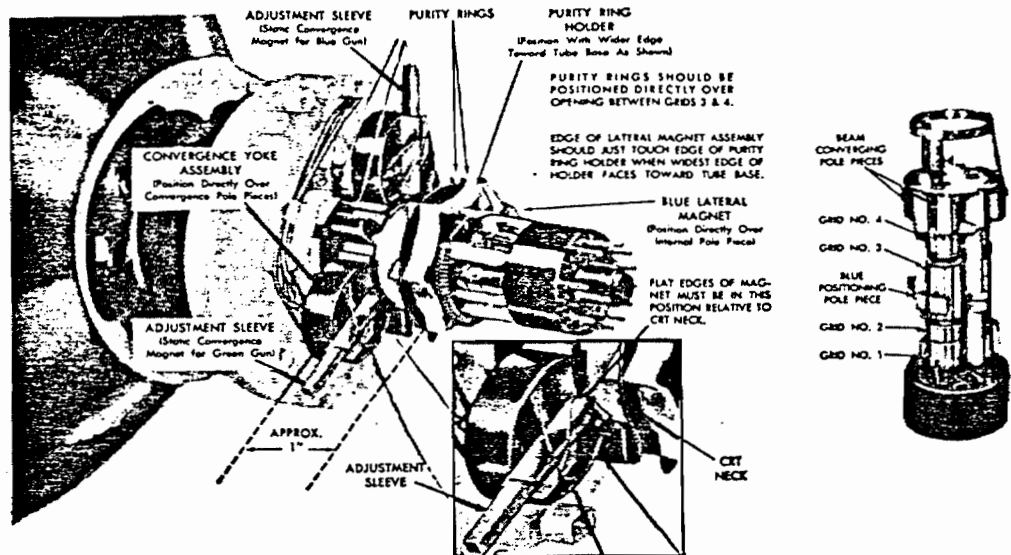

Figure 26—Rear View of Picture Tube, Showing Correct Positioning of Neck Components
1. Converge pattern at center of screen by sliding the permanent magnet adjusting sleeves in or out. See Figure 26. If range is inadequate, remove sleeve, rotate 180° and reinsert.